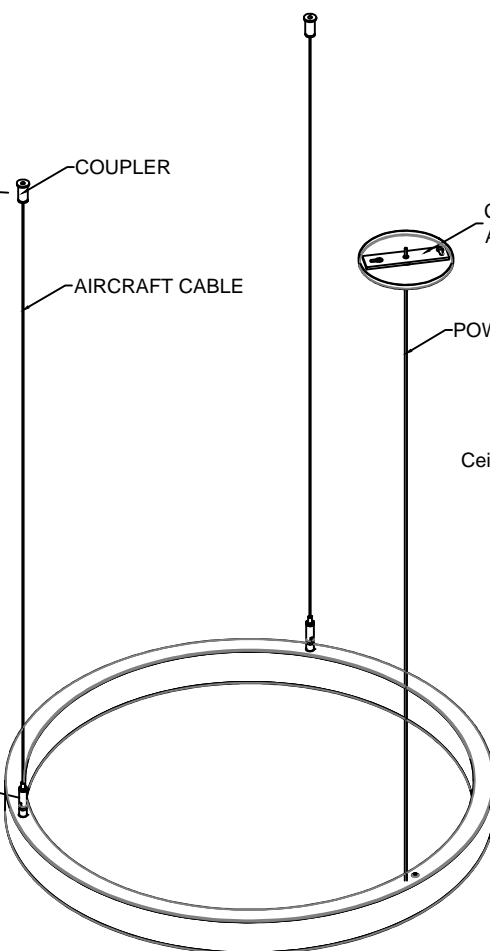

Figure 1
1. Mount the couplers to the ceiling using appropriate fasteners "NOT INCLUDED" according to the structure of the ceiling - see Figure 1